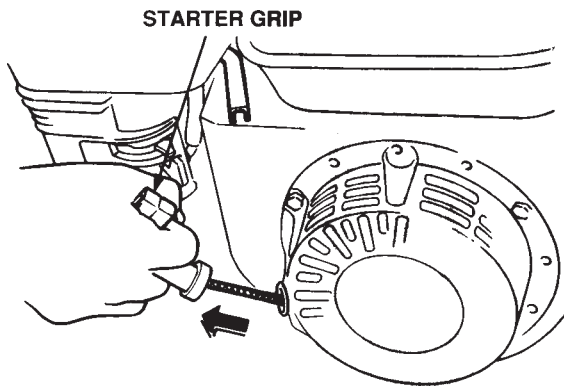

Figure 21. Starter Grip
6. Grasp the starter grip (Figure 21) and slowly pull it out. The resistance becomes the hardest at a certain position, corresponding to the compression point. Pull the starter grip briskly and smoothly for starting.